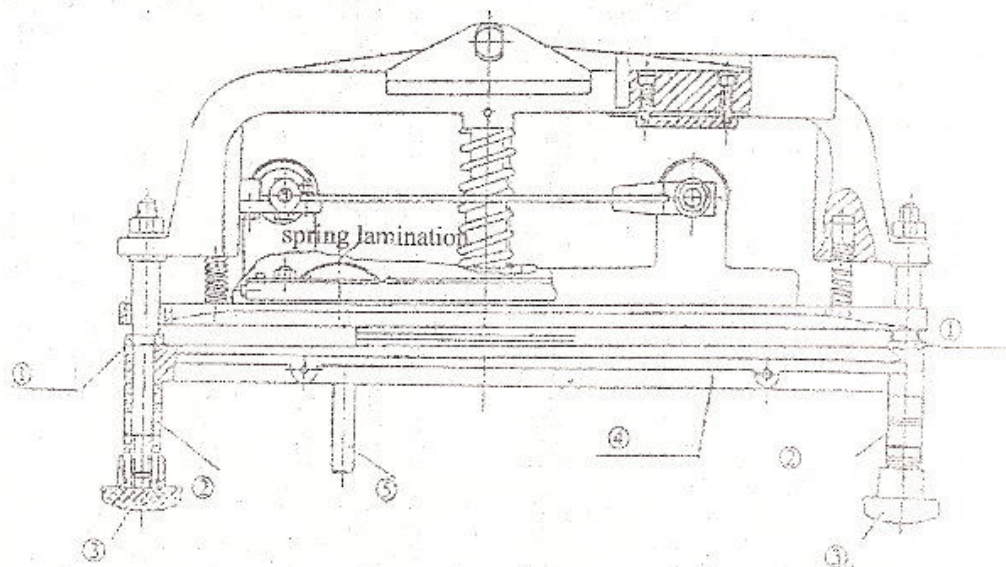

Figure 2
- (3) When books with various specifications and formats are to be bound, they should be placed in the middle position between the interior and exterior clamping plates for even clamp force. According to different books, screw holes vary in the distance on the interior clamping plate. When books vary in format, remove fixed axes and screw them into other holes accordingly, making sure that books is placed in the middle of the book clasper (Figure 2).